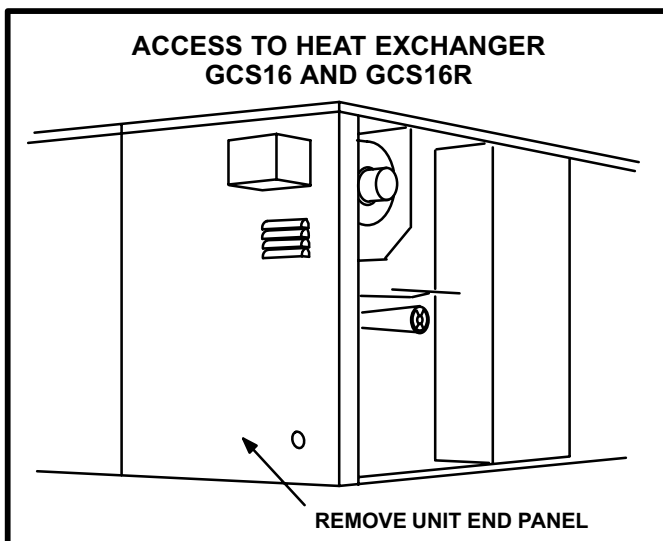

FIGURE 33
- 2-Remove cabinet end panel (see figure 33).